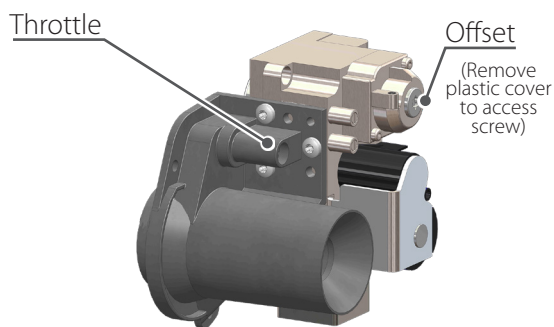

Fig. 10 - Throttle and Offset Locations
- If the CO₂ level during high fire (100%) differs by more than 0.4% from the recommended combustion setting (See **Table 3**) adjust the throttle screw (see **Fig. 10**) as follows:
- If the CO₂ combustion level during low fire (1%) differs by more than 0.4% from the recommended combustion setting (See **Table 3**), remove plastic cover from Offset screw (See **Fig. 10**) and adjust as follows: